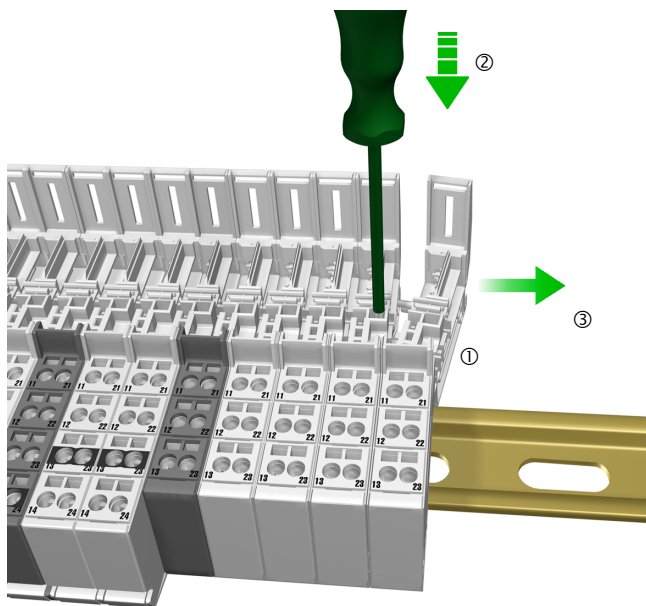
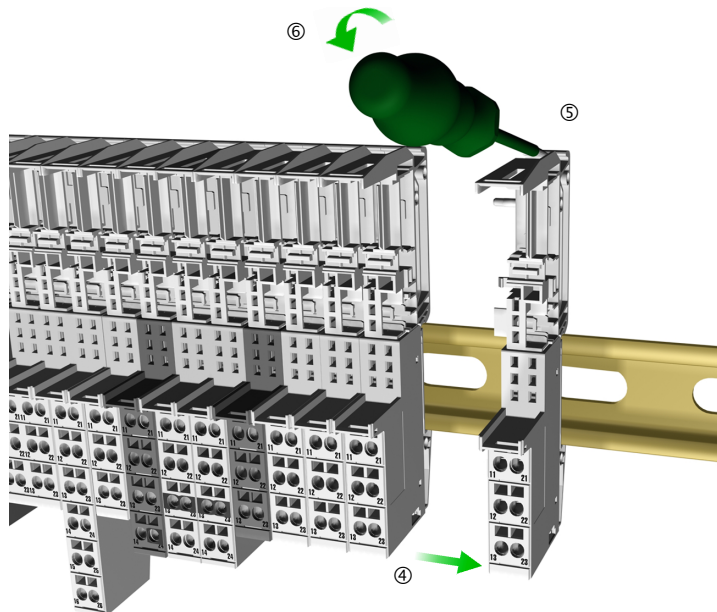

Fig. 318: Dismounting base modules in slice design
Fig. 319: Dismounting base modules from the mounting rail
- Carry out the steps indicated in Fig. 318: Dismounting base modules in slice design (Seite 482) and Fig. 319: Dismounting base modules from the mounting rail (Seite 483). The method is identical at this point for both slice and block base modules.